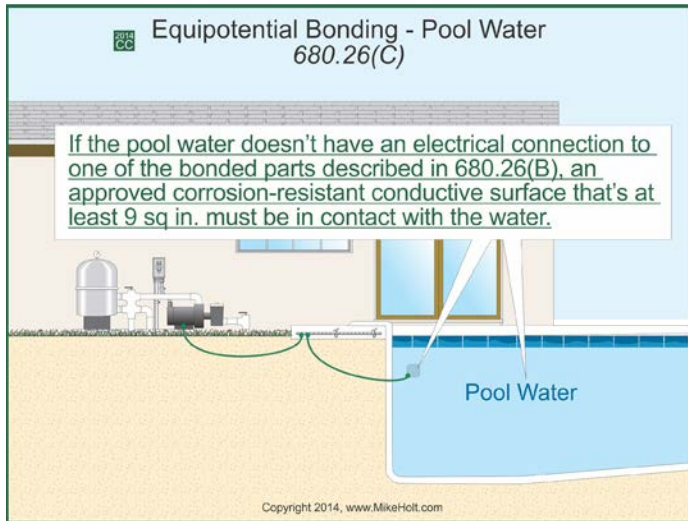

Figure 680-48
(C) Pool Water. If the pool water doesn't have an electrical connection to one of the bonded parts described in 680.26(B), an approved corrosion-resistant conductive surface that's at least 9 sq in. must be in contact with the water. The corrosion-resistant conductive surface must be bonded in accordance with 680.26(B), and be located in an area where it won't be dislodged or damaged or dislodged during normal pool usage. *Figure 680-48*